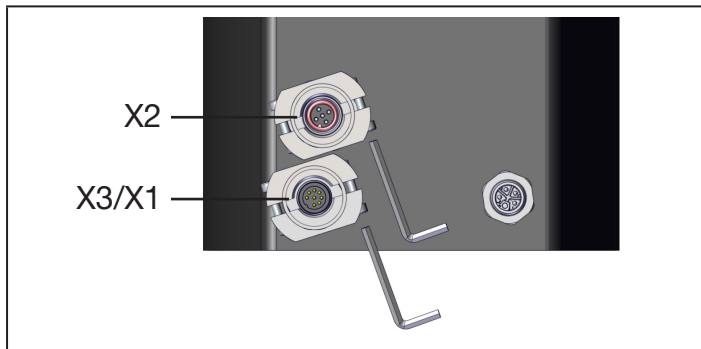

Fig. 9: Port with X2 circular socket
- Align and tighten both clamping rings as shown in "Fig. 9".